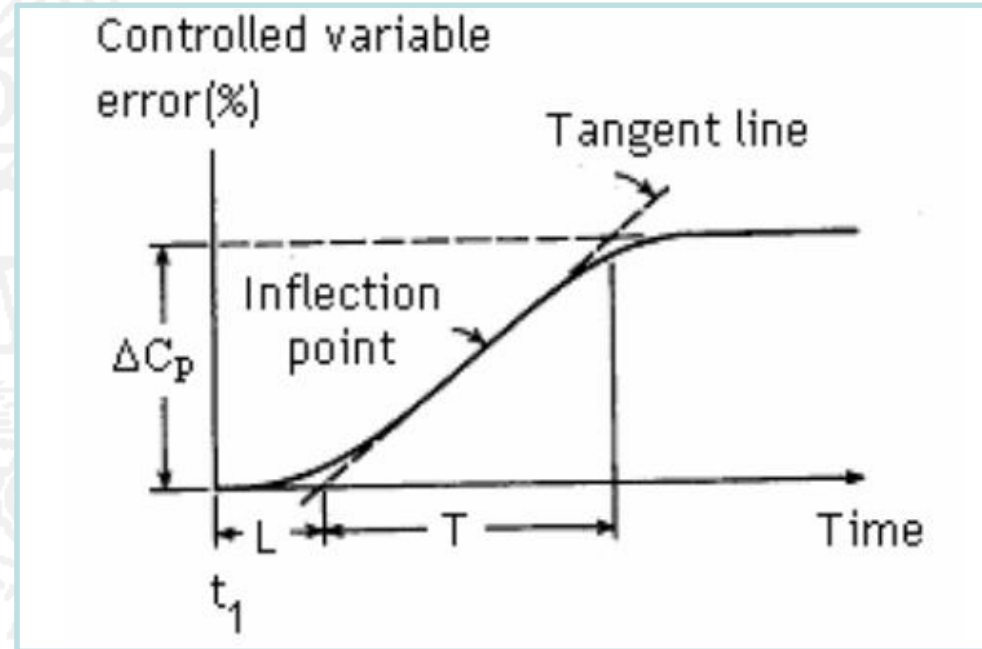

Figure 1.2
- A typical open loop controller response is shown in figure 1.2.